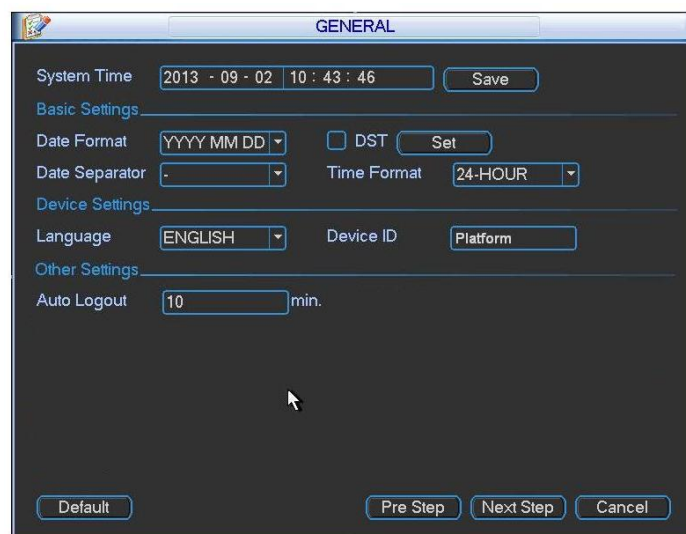

Figure 2-2
- 5) Click Next button, system pops up the General interface. See Figure 2-2.